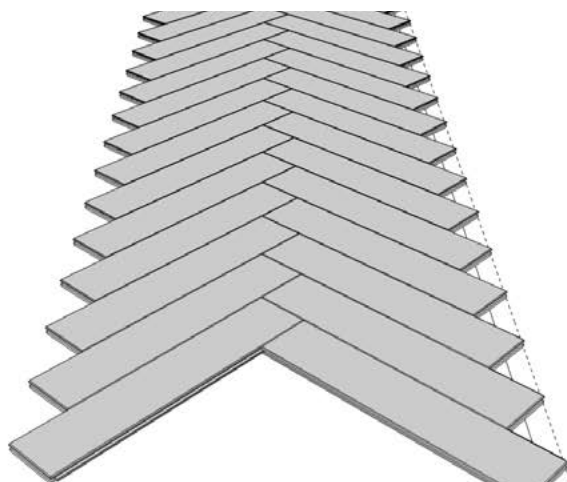

FIGURE 3
2. Install the first row according to the predetermined layout as shown in Figure 3: